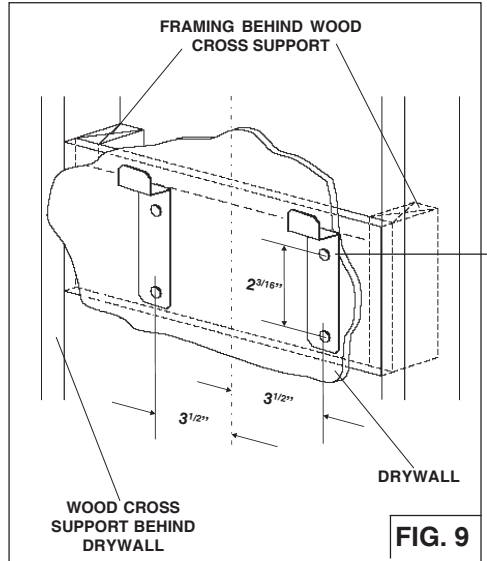

FIG. 9
1. Construct wood wall framing that is flush with interior surface of wall studs (Fig.9).